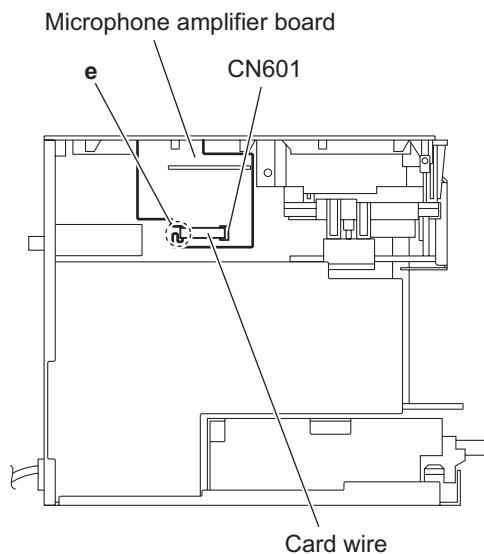

Fig.11
- From the left side of the main body, disconnect the card wire from connector CN601 on the microphone amplifier board. (See Fig.11.)
When reassembling, pass the card wire through the section **e** of the microphone amplifier board before connecting the card wire to the connector CN601. (See Fig.11.)